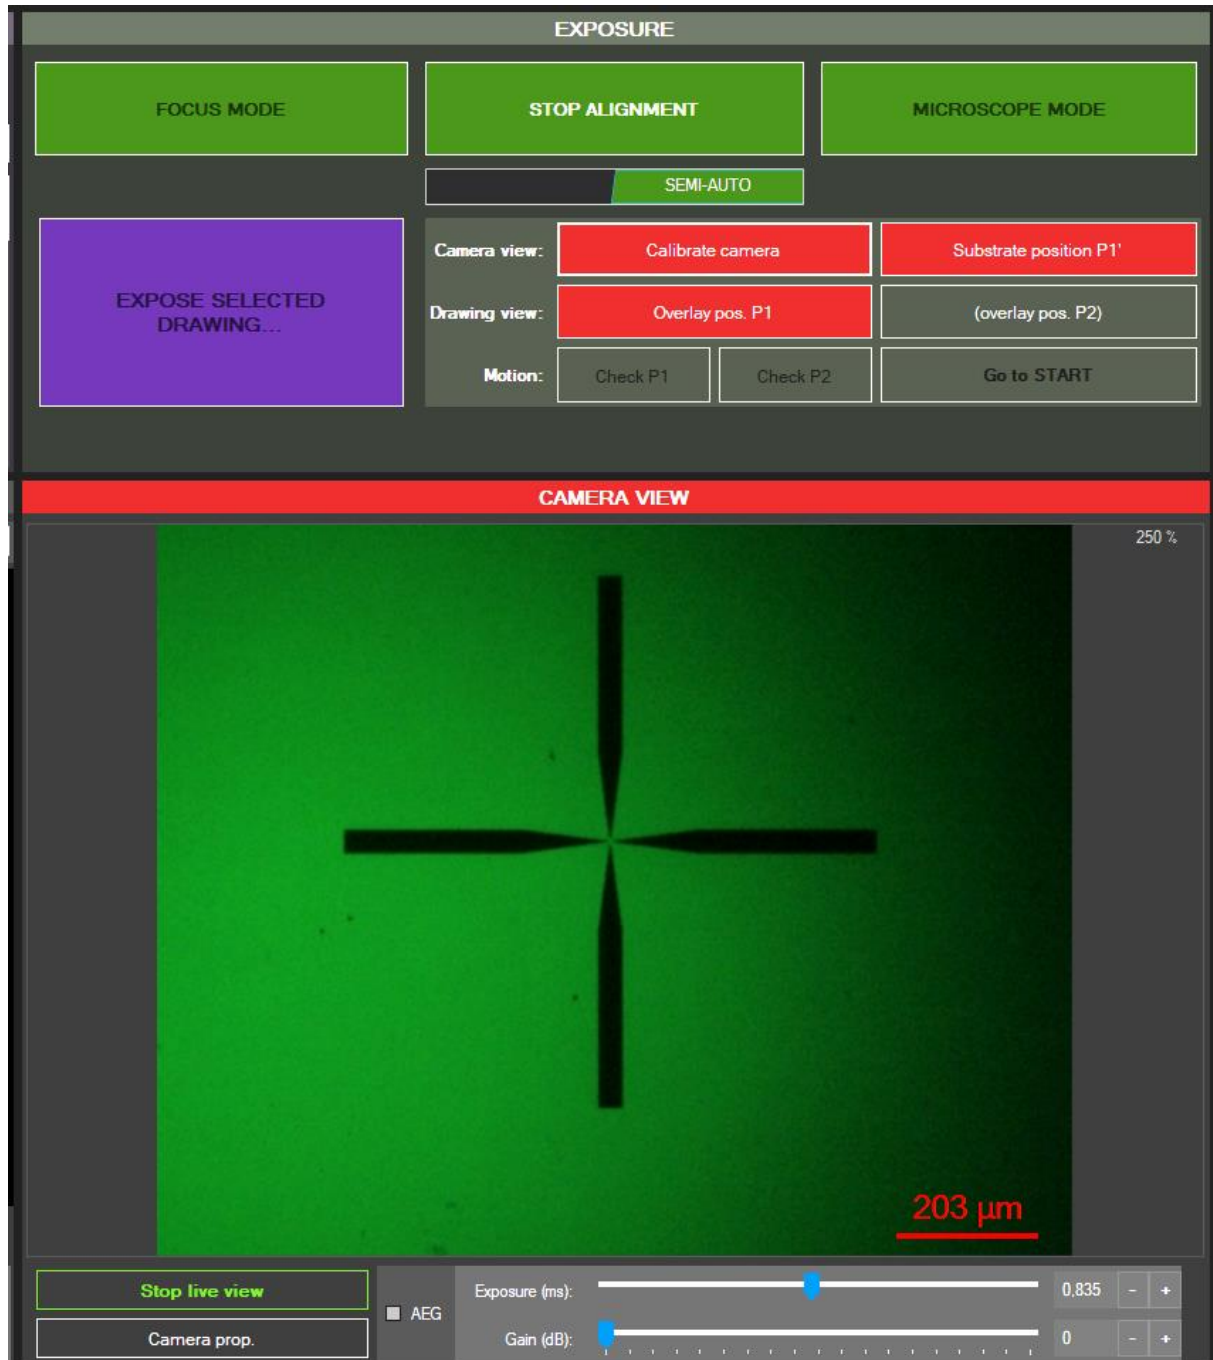

Figure 57 - Semi-auto alignment: camera calibration
- Camera calibration (Figure 56a): click on **Calibrate camera**. The camera live view may start and the mouse cursor shape may change. In the camera view, click on the central part of the displayed cross (Calibration point) as shown in Figure 57.